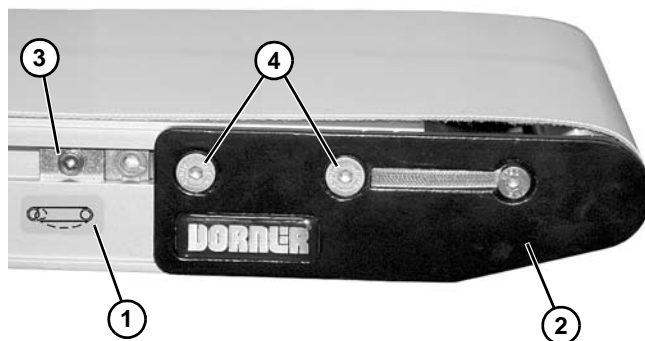

Figure 26
4. On tension end of the conveyor, identified with a label (Figure 26, item 1), push in head plate assembly (Figure 26, item 2):
- a. On both sides of conveyor, loosen and move cam tracking assemblies (Figure 26, item 3) (if equipped) away from head plates.
- b. Loosen fastening screws (Figure 26, item 4) and push head plate assembly inward.